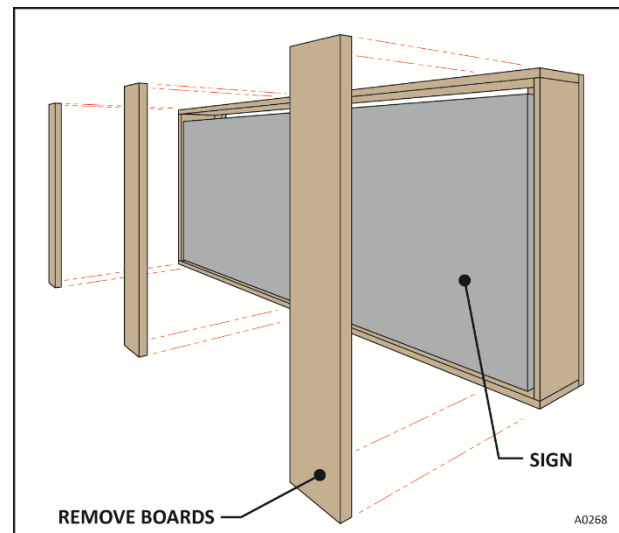

FIGURE 3 – UNPACKING THE SIGN
2. Remove the side boards of one side of the shipping crate. See Figure 3.